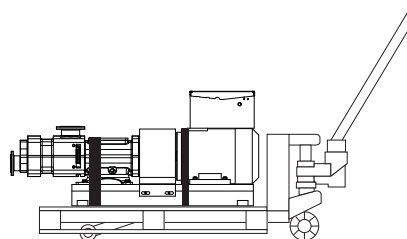

Fig. 8 Transport by forklift
- ▶ Check whether the pump is adequately secured on the pallet. For instance using straps, see Fig. 8 "Transport by forklift", Page 9.